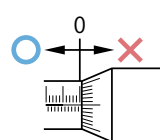

Fig. 3
1. Do not retract the spindle too far past the upper limit of the measuring range, as this can damage some types of digital micrometer. (**Fig. 3**)